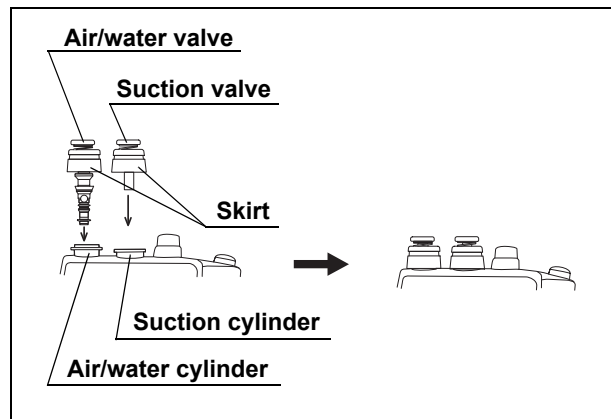

Figure 3.13
1. Attach the air/water valve to the air/water cylinder of the endoscope (see Figure 3.13).